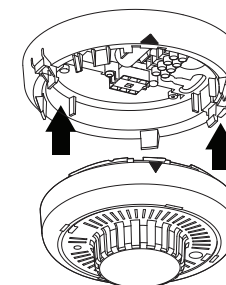

Fig 3.
3. Locate the molded arrow on the side of the base and smoke alarm see fig 3. Position the smoke alarm just below the base with both arrows in the same orientation and locate the alarm onto the base by gently applying pressure until the alarm 'clicks' into place.
5. Press the test button on the alarm to ensure correct operation be re-installing. Locate the molded arrow on the side of the base and smoke alarm see fig 3. Position the smoke alarm just below the base with both arrows in the same orientation and locate the alarm onto the base by gently applying pressure until the alarm 'clicks' into place.